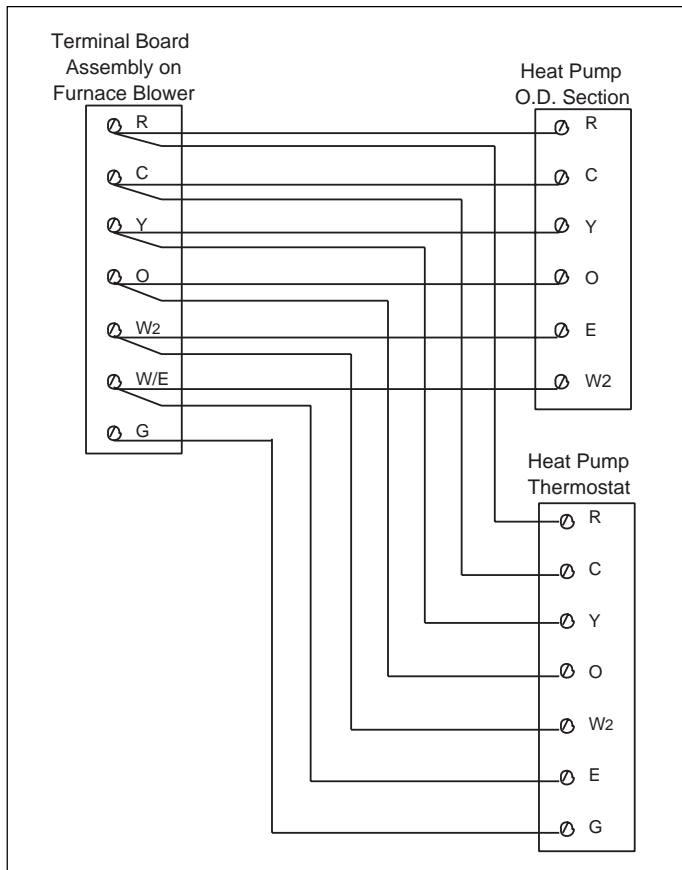

Figure3. System Connection
4. Bring all of the thermostat and heat pump wires to the furnace for system connection (see Figure 3). Turn the power back on.